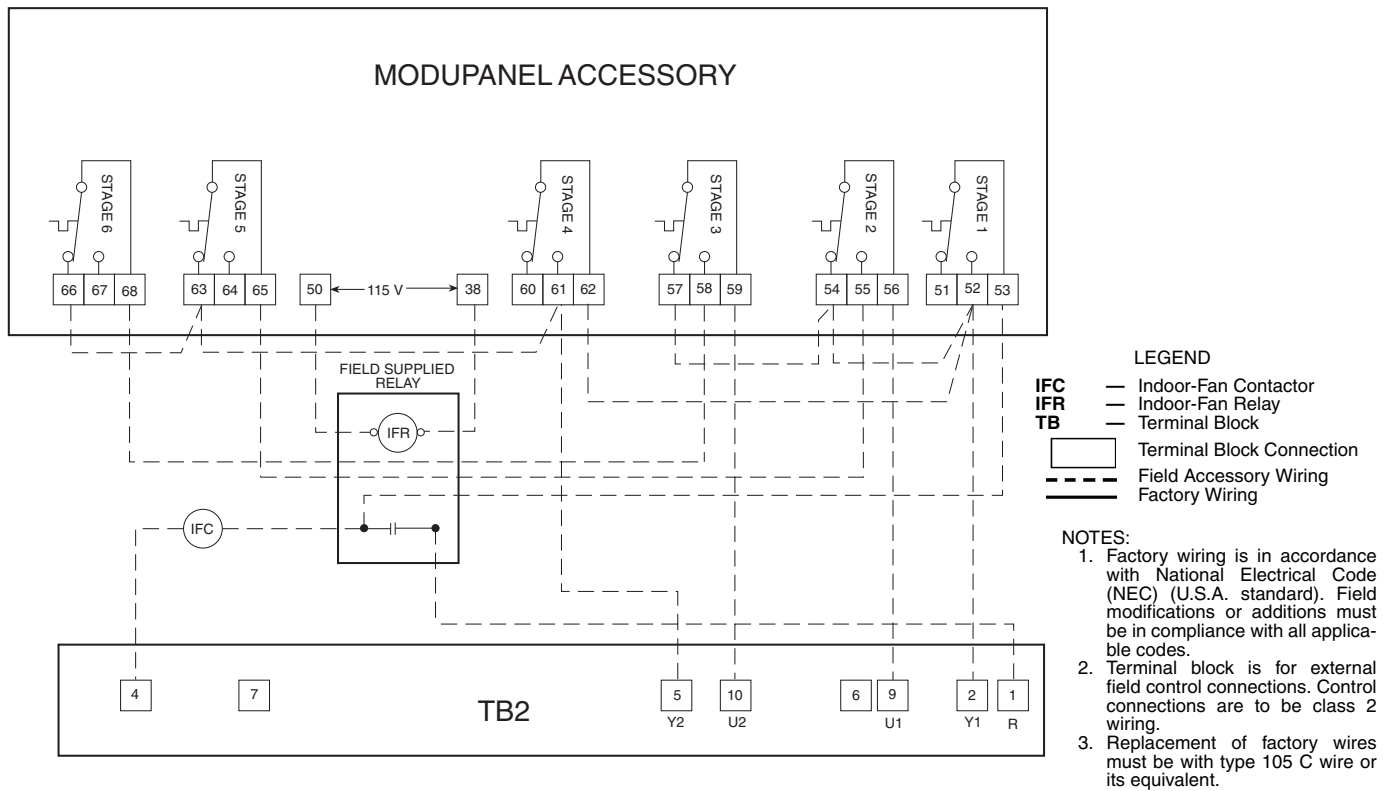

Fig. 14 — Typical 38AH Unit Field Wiring — ModuPanel™ Controller with 38AH024-034 Dual-Circuit Condensing Unit and Air Handler
3. **ModuPanel™ Control Connections (38AH units)** — Refer to Fig. 14 and 15 for field connections.